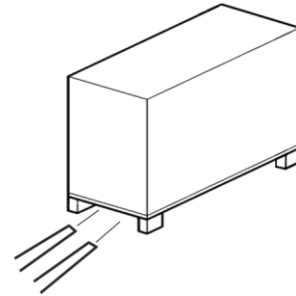

Fig. 21: Transport with a forklift vehicle
1. Move the forklift so that its forks are inserted, as shown in Fig. 21.